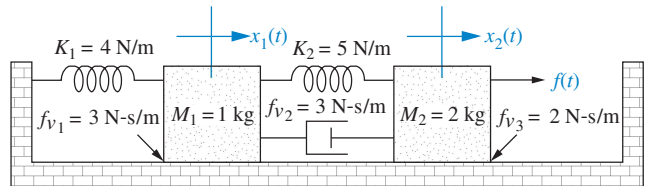

FIGURE P2.12
27. For the system of Figure P2.12 find the transfer function,  $G(s) = X_1(s)/F(s)$ . [Section: 2.5]